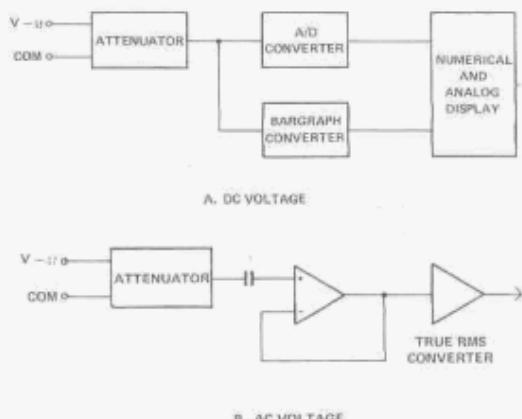

FIGURE 5-2.
5.2.2 The basic DC Voltage circuit is shown in Figure 5-2(A). The DC Voltage being measured is connected to the "V-Ω" and "COM" jacks, attenuated according to the range selected and converted into digital information by the A/D converter.
5.2.5 The basic AC voltage measurement circuit is shown in Figure 5-2(B). The AC voltage being measured is connected to the "V-Ω" and "COM" jacks, attenuated according to the range selected and applied to the amplifier. The output of the amplifier is converted into DC voltage by a True RMS converter and the resulting 200 mV DC voltage is measured by the A/D Converter. A buffer is used between the attenuator and the True RMS converter.